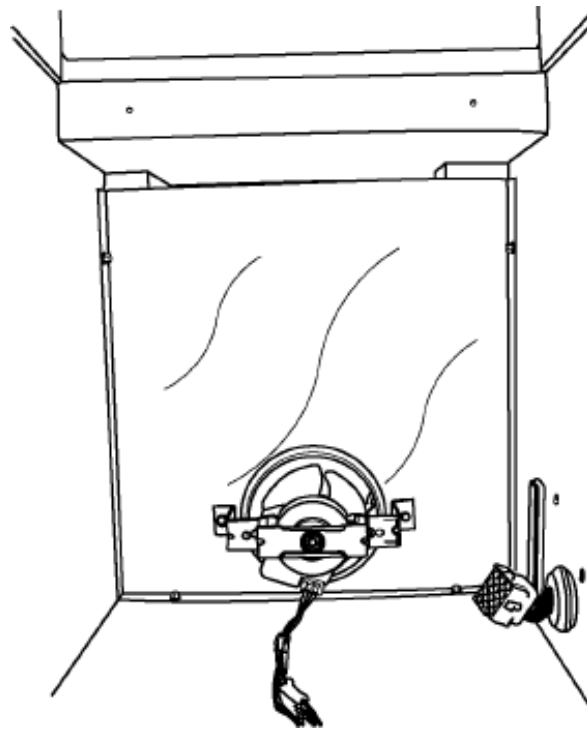

Figure 3
12. Remove the evaporator cover mounting screws. (See figure 3).